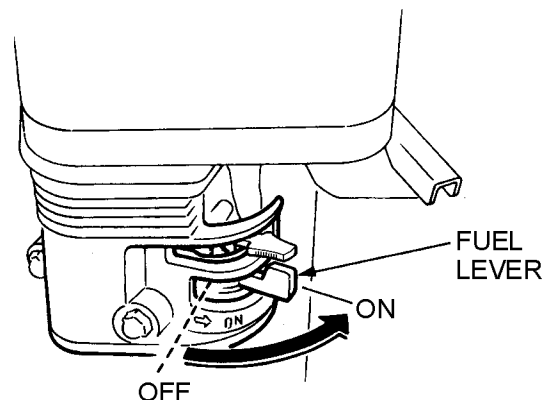

Figure 16. Engine Fuel Valve Lever
1. Place the ***fuel valve lever*** (Figure 16) to the "ON" position.